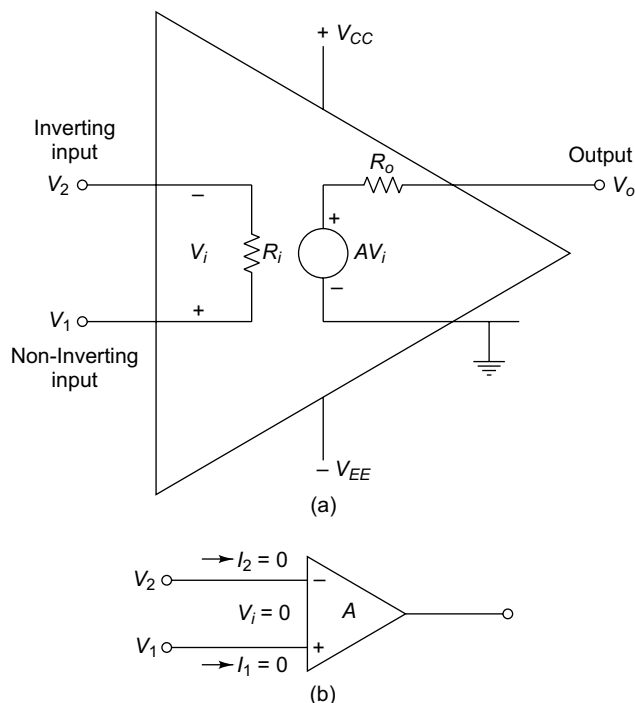

Fig. 4.2 Equivalent circuit of an OP-AMP
A equivalent circuit of an OP-AMP with finite input and out resistances is shown in Fig. 4.2. This circuit incorporates important values such as A , R_i , and R_o from the manufacturer's, data sheet.
- As $R_i = \infty$, current input into inverting and non-inverting terminals is approximately zero as shown in Fig. 4.2(a).